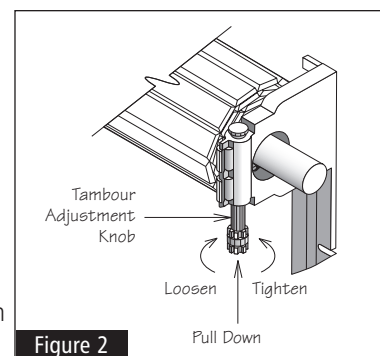

Figure 2
- 6 Open and close the Appliance Garage tambour door. If adjustment is needed, pull down tambour adjustment knob and turn counterclockwise to tighten and clockwise to loosen tambour door. See Figure 2.